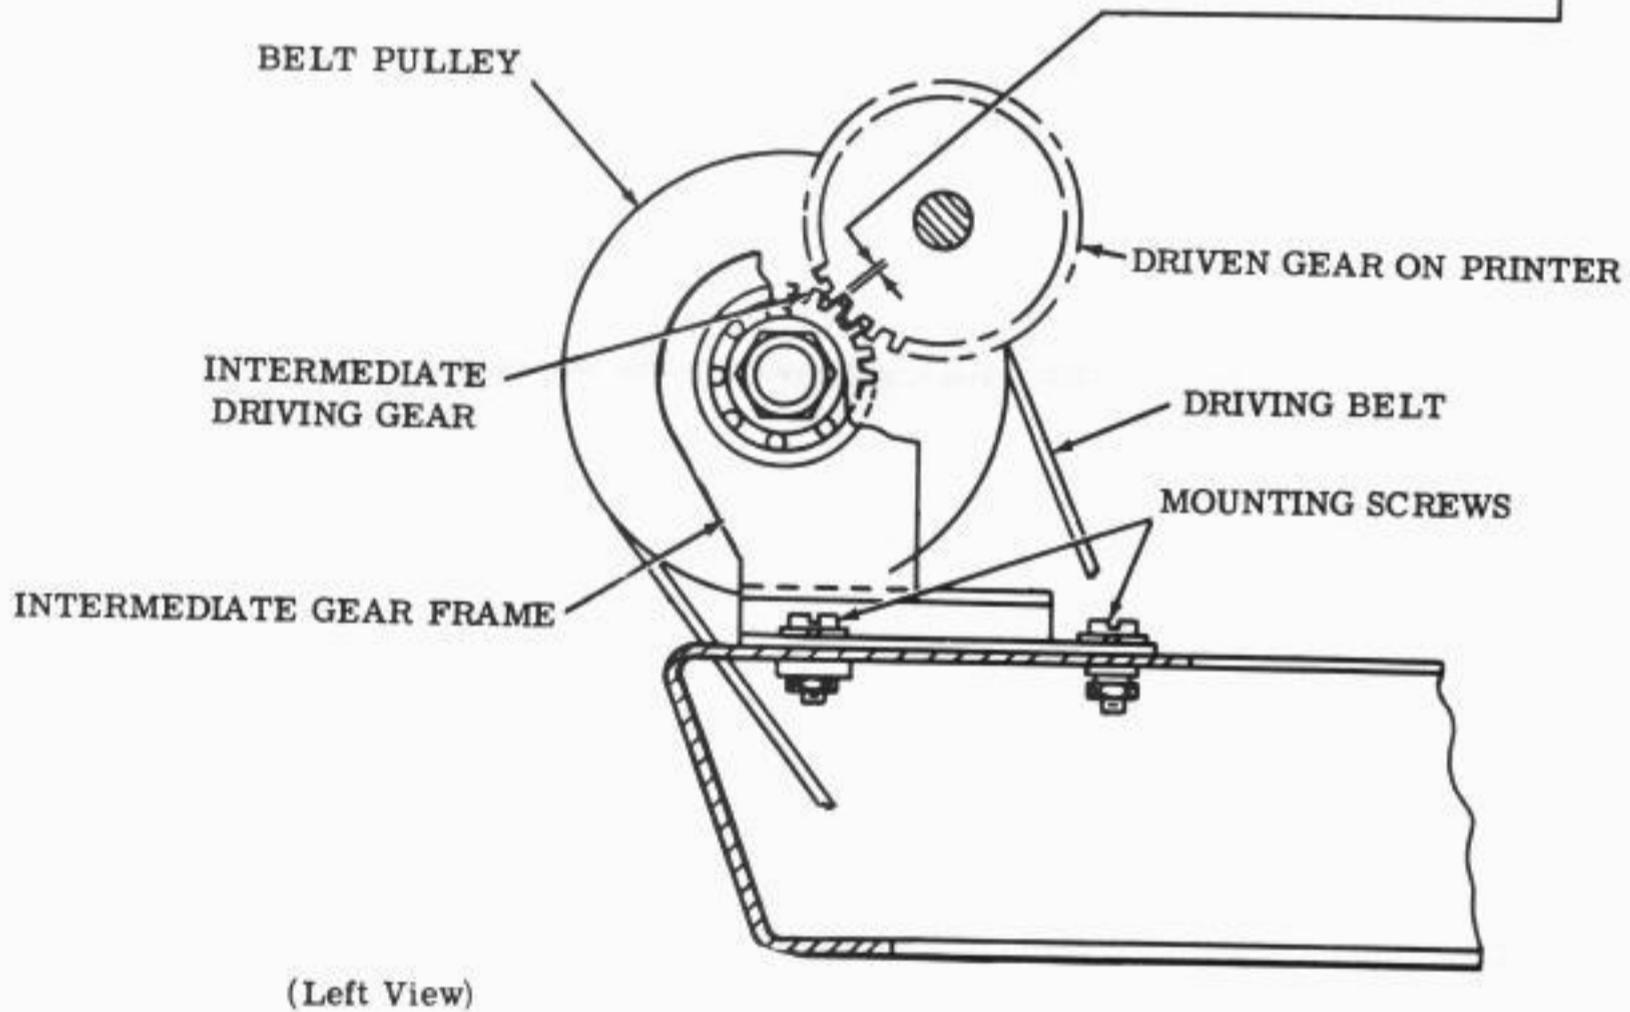

Figure 11 - Intermediate Gear Assembly
(1) Adjust the intermediate gear assembly and the timing belt as indicated in Figures 11 and 12.
(2) Remove the typing unit from the keyboard (or base) in preparation for installing the keyboard (or base) on the backplate assembly.